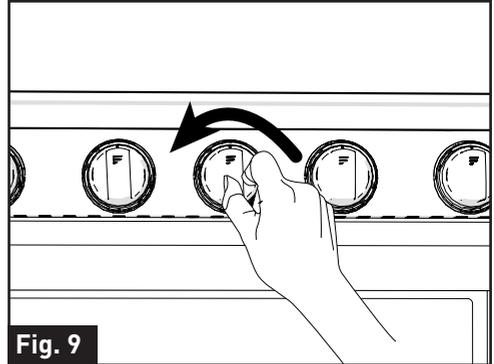

Fig. 9
3. Turn the appropriate burner knob counterclockwise to LITE position. (Fig. 9)